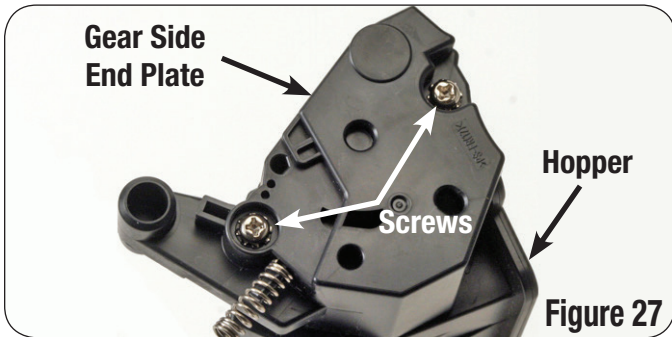

Figure 27
29. Remove the OEM gear side end plate by using a Phillips screwdriver to remove the two screws noted in Figure 27.